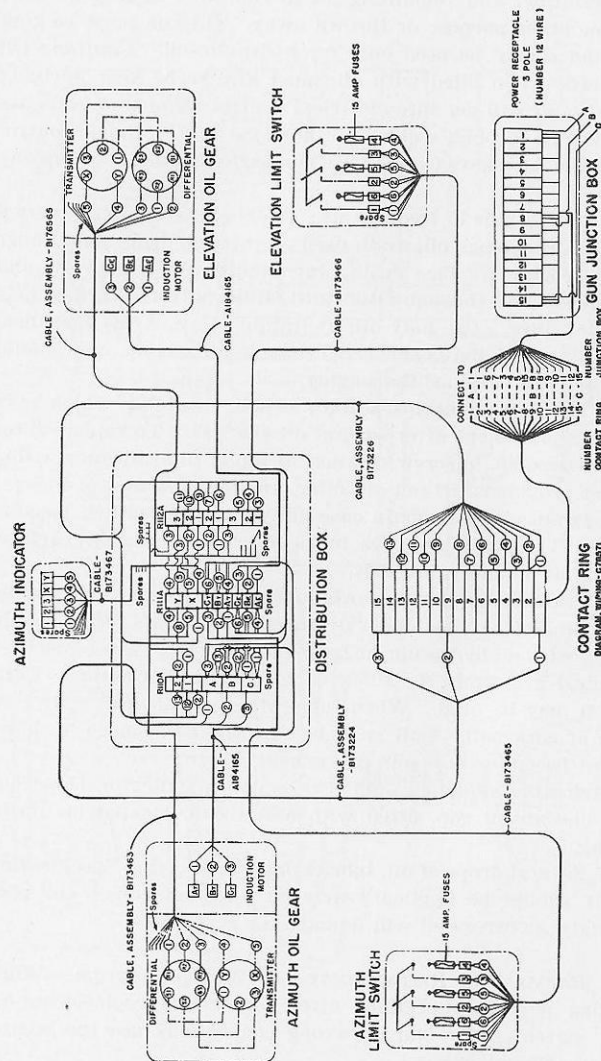

FIGURE 32.—Remote control system M5—wiring diagram.
b. Azimuth indicator.—(1) The azimuth indicator (blackout dial) has an oil cup, fitted with a felt pad, located in top of housing.
(2) Several drops of oil, lubricating (U. S. Army Specification 2-27E) should be applied yearly to these oil cups. Oil very sparingly, as excess oil will damage the repeater.
■ 83. REPAIR AND REPLACEMENT.—*a. Wiring diagram.*—When checking wiring connections after repair and replacement or when searching for bad or wrong connections use the wiring diagram (figure 32).